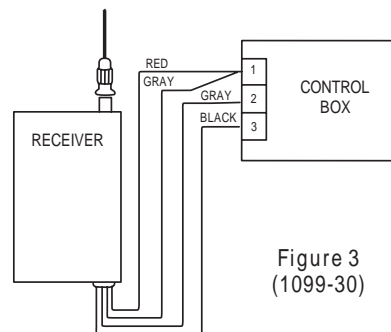

Figure 3 (1099-30)
**IF YOU HAVE THE MODEL 1099-30:** Wire the red and black wires to a 24VAC power supply. Connect the remaining gray wires as specified by the manufacturer of your operator. If such instructions do not exist, wire the two gray wires in parallel with the pushbutton terminals. If the operator has a three wire terminal, the proper terminals will usually be marked "1" and "2" or "24V" and "RELAY" (see figure 3).